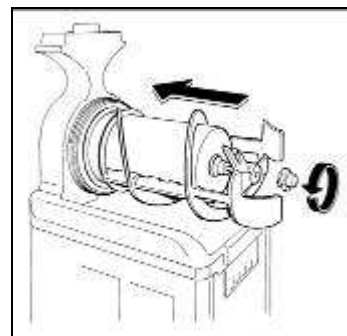

Fig. 23
- Block all these components into place by turning the knob in counter clockwise direction (fig.23).